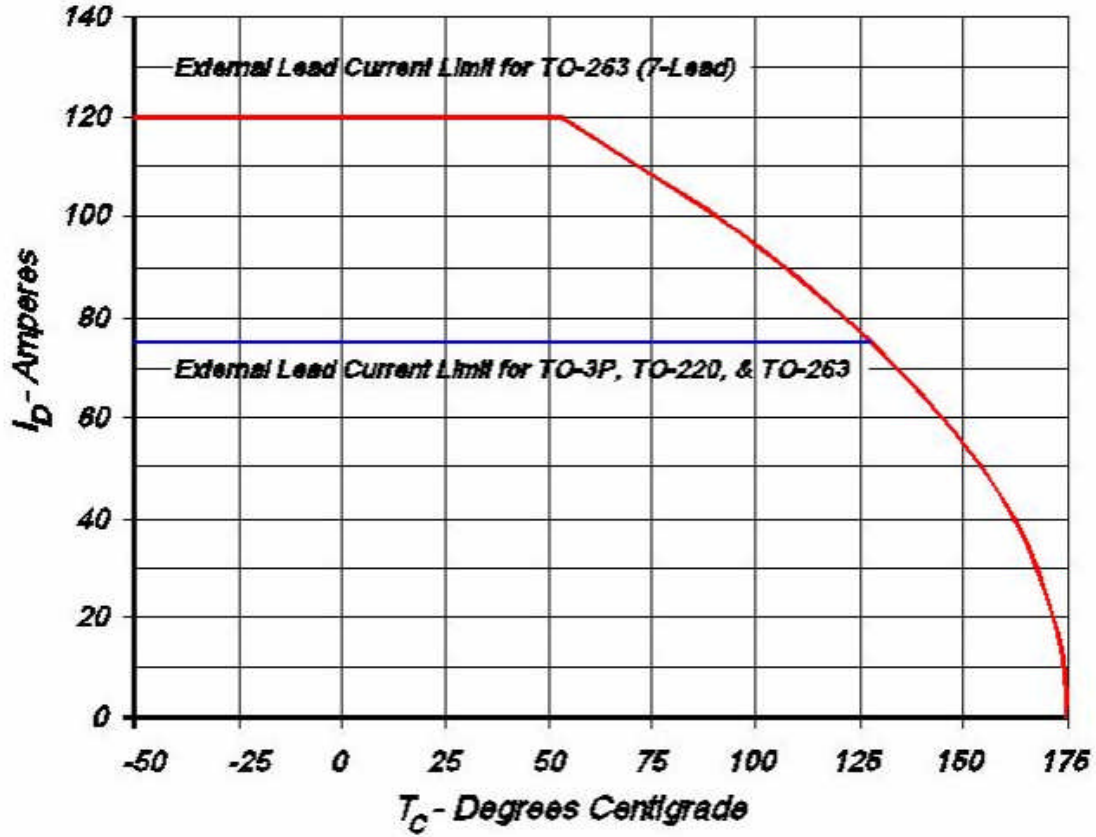

Figure 4: Drain Current vs. Case Temperature [IXTH/IXTQ130N10T]⁵
Figure 4 is just the solution of equation (8) over a range of case temperature. Note that in some cases, the package leads limit the continuous current (the switched current can be higher). 75A is for TO-3P, TO-220 and TO-263 and 120A is for 7-leaded TO-263.